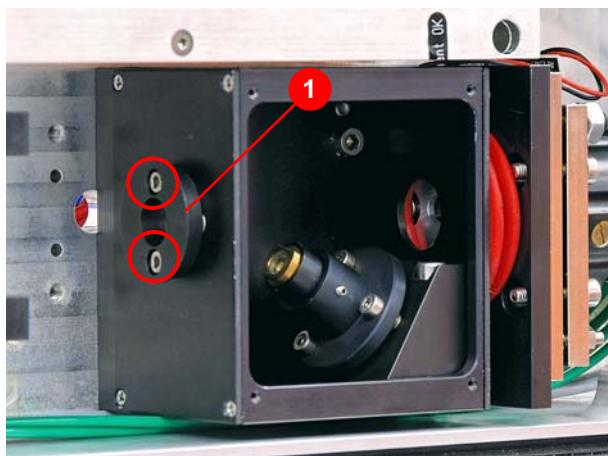

Figure 7.41 Alignment laser housing
5. Remove the coupling mirror (1) (Figure 7.41).